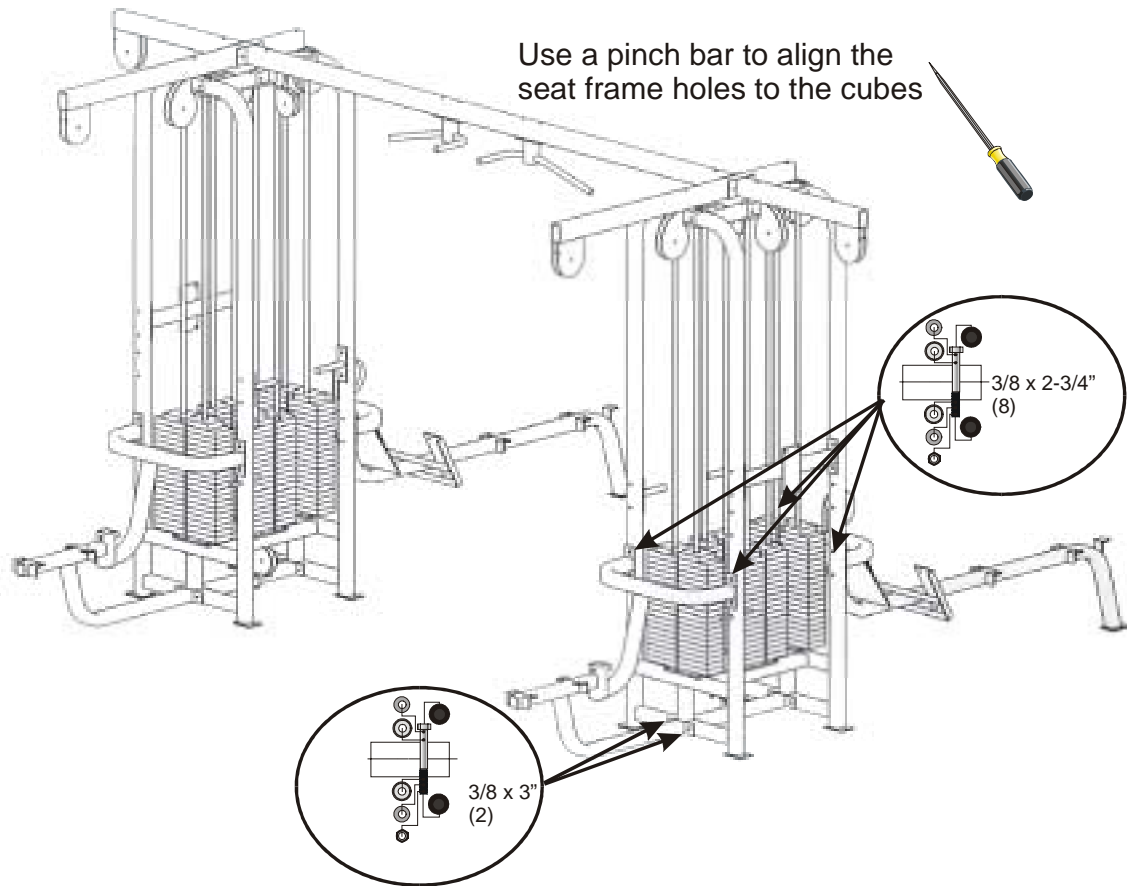
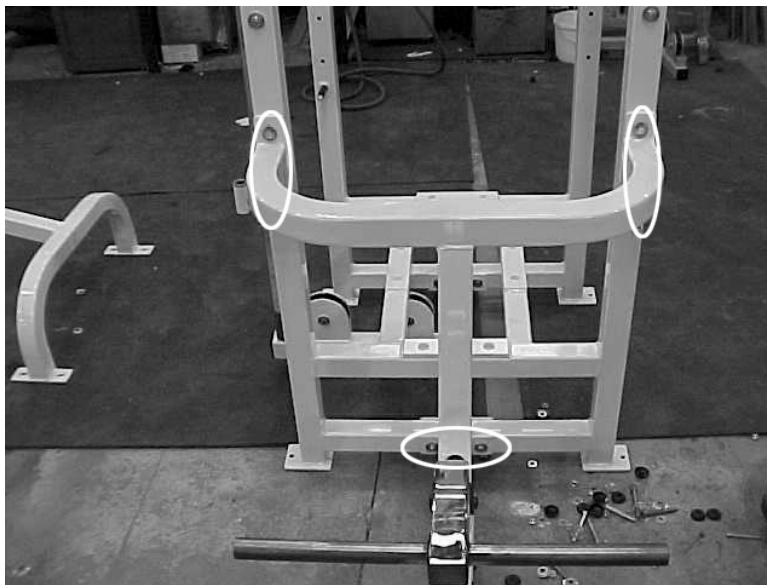

Figure 13. Mount the benches to the frame.
Figure 14. Bolt the benches to the frame.
7. **Mount the seated row and lat benches to the frame.** Using the bolts specified in Figure 14 and a 9/16" socket and combination wrenches, mount the benches as shown in Figures 13 and 14.